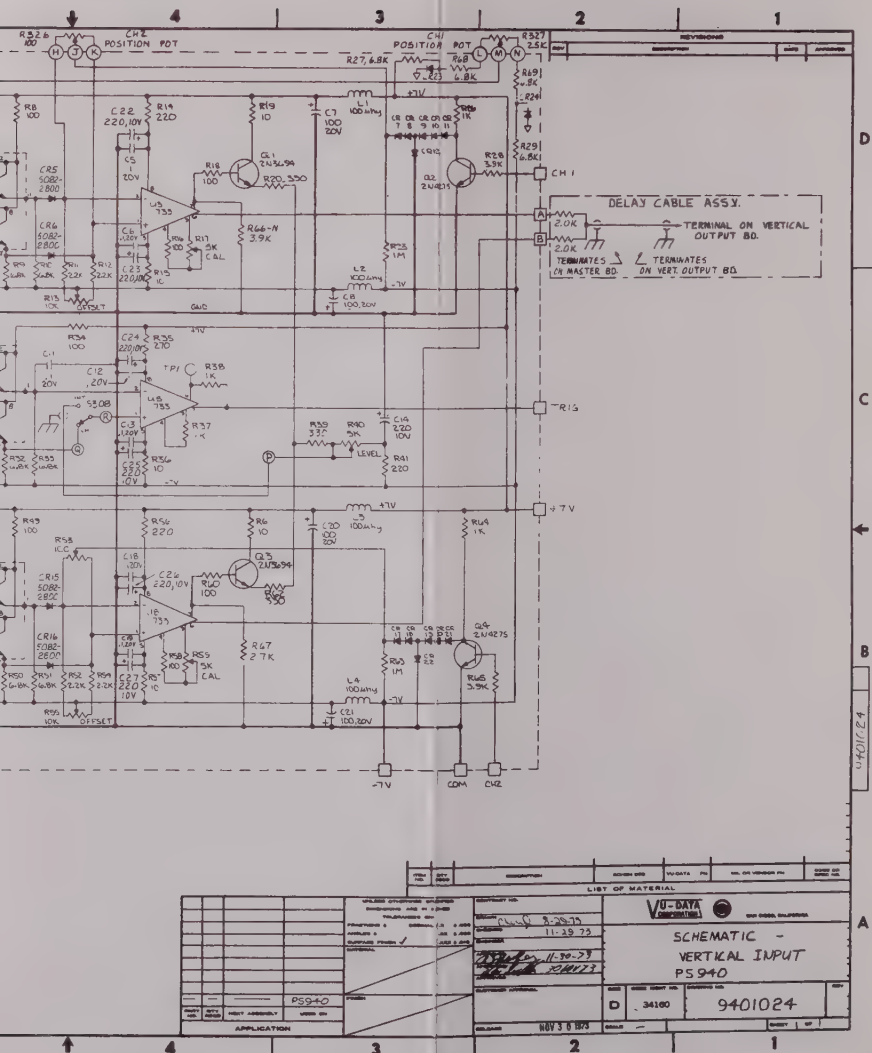

Figure 7-2. Vertical Assembly Schematic 9401024
- Figure 7-2. Vertical Assembly Schematic 9401024